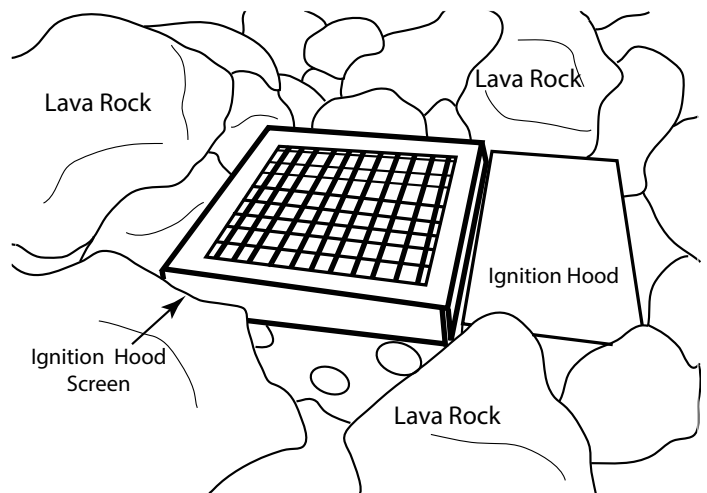

Fig. 21 Installing screen mesh cover on ignitor hood.
Step 10: Install the ignition hood screen mesh and ensure no media lays on the screen mesh area (See Fig. 21). Install the lava rock/media material according to fire pit install manual and turn the main gas supply back ON. Installation is now complete.